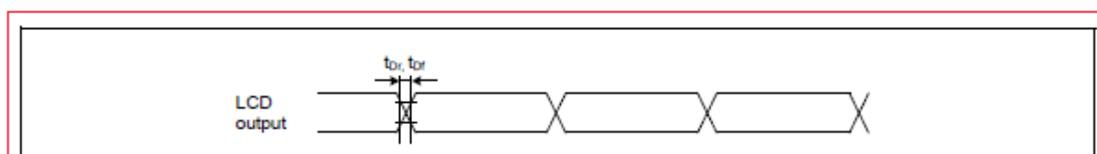

Figure 59.74 LCD output rise and fall times
2. Table 59.33 Graphics LCD Controller timing and Figure 59.74 LCD output rise and fall times
“Figure 59.74 LCD output rise and fall times” are deleted